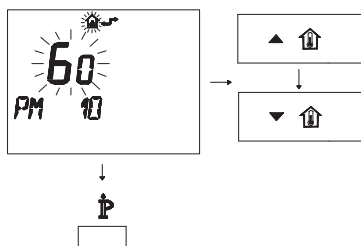

Fig. 8.29
- To modify the programmed SET, act on buttons or and wait for the number programmed to flash (Fig. 8.29).